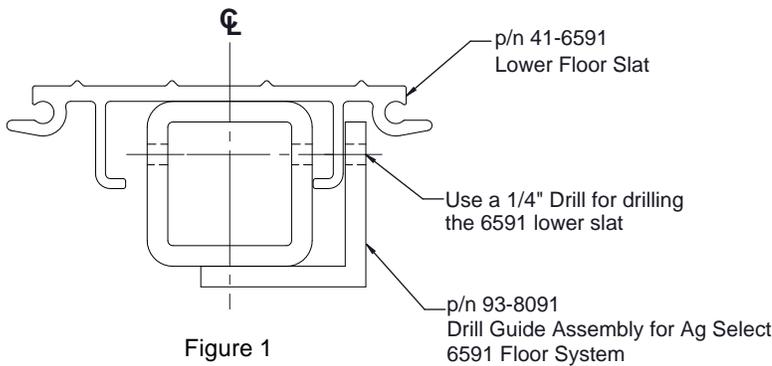

Figure 1
2. Pre-drill lower slats using #93-8091 drill guide (see Figure 1).